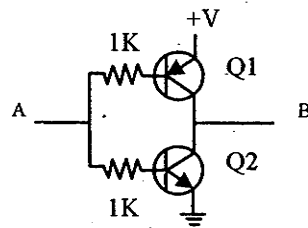

Fig 1(b). Buffer
* The o/p pins on the stepper motor driver do not provide enough current to drive the stepper motor. To amplify the current, a buffer is needed and is shown in fig 1(b).
In this example, the stepper motor driver is eliminated. The stepper motor is connected directly to the 8051 μ C as shown in fig 1(a).
- * The 8051 ports are unable to directly supply the current needed to drive the motor. To amplify the current, a buffer is needed and is shown in fig 1 ⑥.